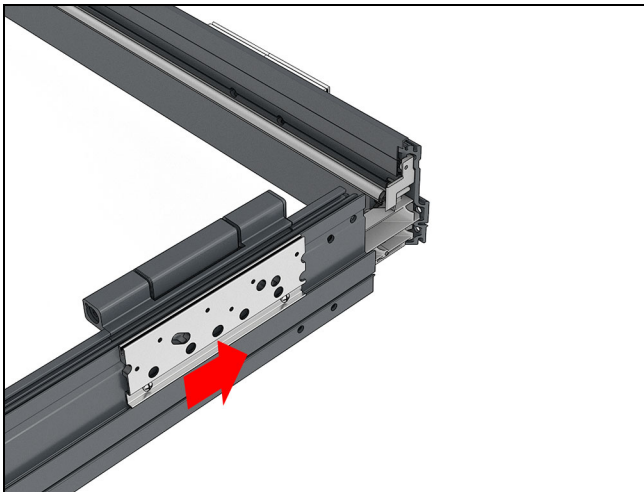

Figure 15
4. Slide the jamb frame members onto the head jamb corner key. See Figure 15.